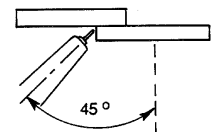

Figure 2.8
3. The electrode should be positioned at a 45° work angle and a 10° to 15° push angle to perform the weld. (See Figures 2.8 and 2.9.)